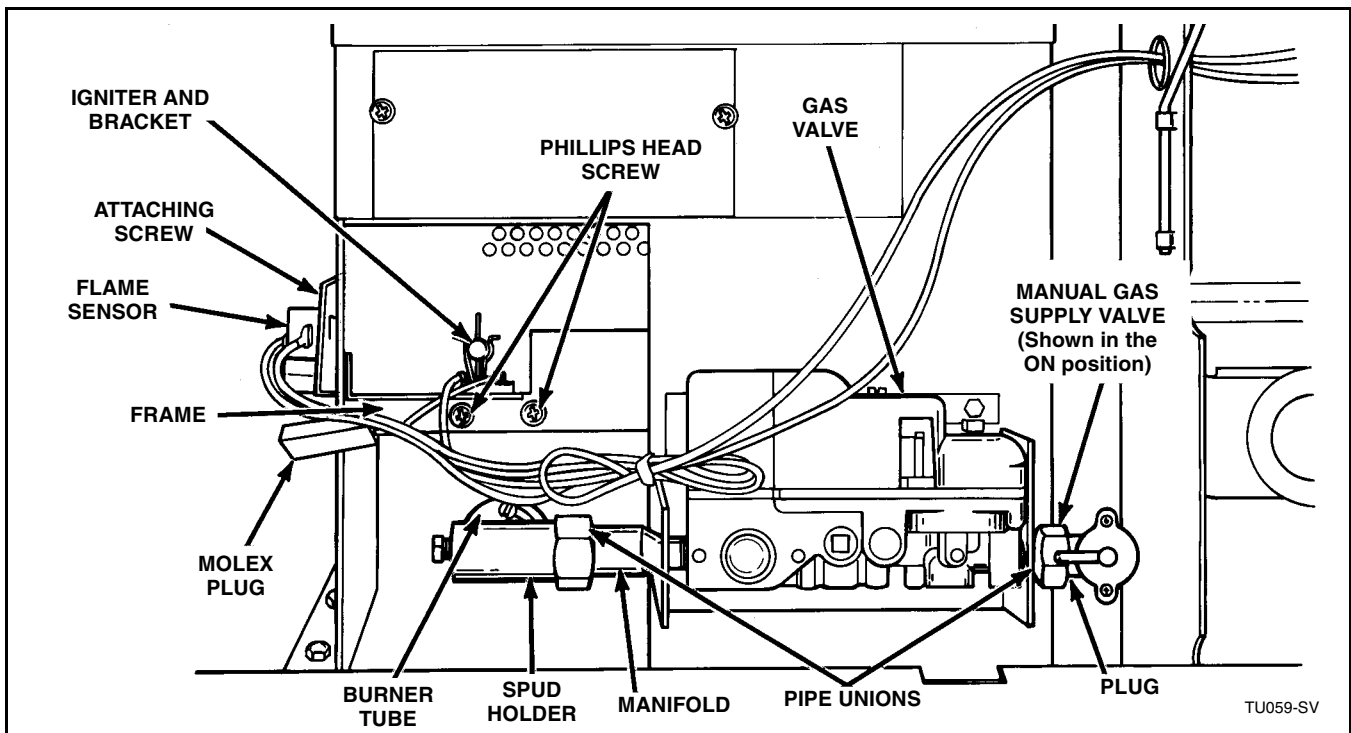

Figure 12
- Close manual gas supply valve. Refer to *Figure 12*.
- Disconnect all wires from gas valve and disconnect gas valve pipe unions. Refer to *Figure 12*.
- Remove spudholder from left side of valve and plug from right side of valve. Refer to *Figure 12*.
- g. Remove screws holding gas valve and bracket to stove assembly. Refer to *Figure 12*.
- d. Close manual gas supply valve. Refer to *Figure 12*.
- e. Disconnect gas valve pipe union attaching manifold to spudholder and remove spudholder. Refer to *Figure 12*.
- f. Remove screws holding burner tube to stove frame and remove burner tube. Refer to *Figure 12*.
- f. Disconnect igniter from Molex plug. Refer to *Figure 12*.
- d. Disconnect wires from flame sensor. Refer to *Figure 12*.